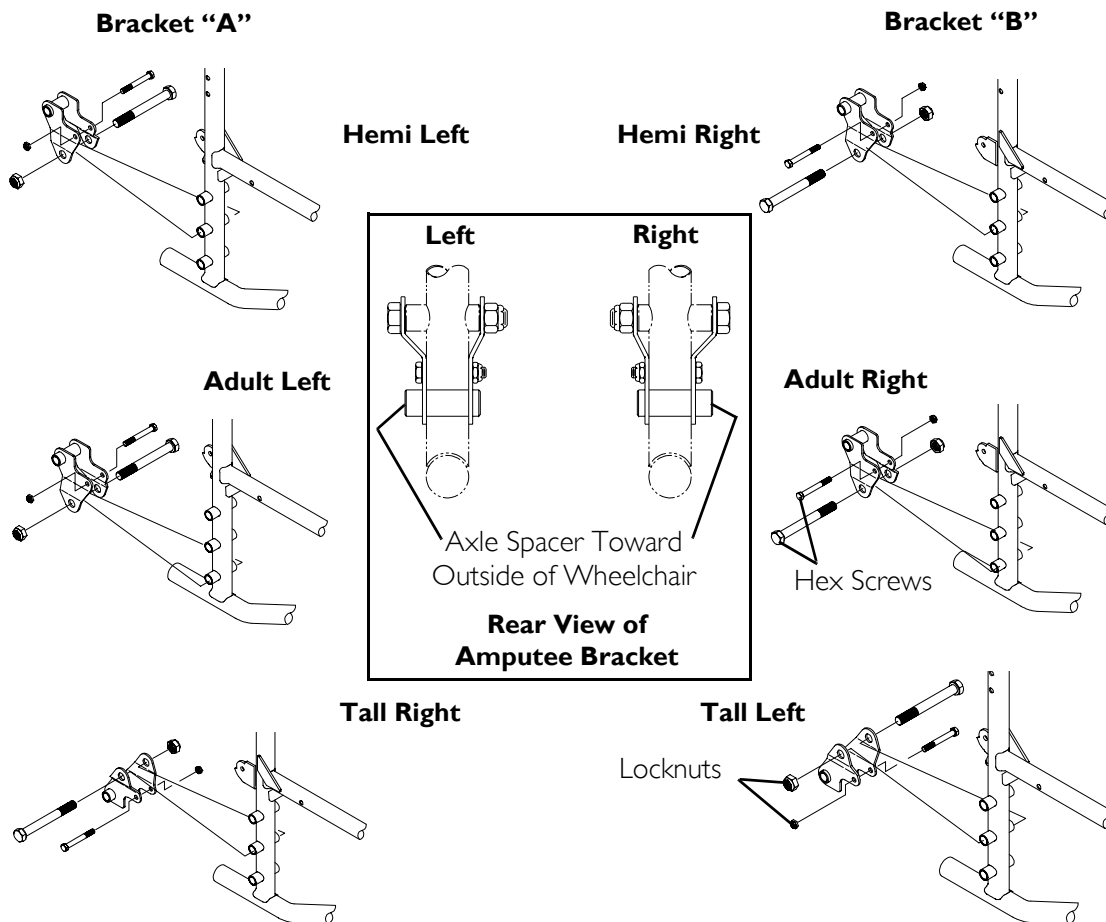

FIGURE 11.5 Installing Amputee Bracket - 9000XDT
NOTE: For this procedure, refer to FIGURE 11.5.
1. Refer to the following chart or FIGURE 11.5 to determine the mounting position of the amputee bracket: